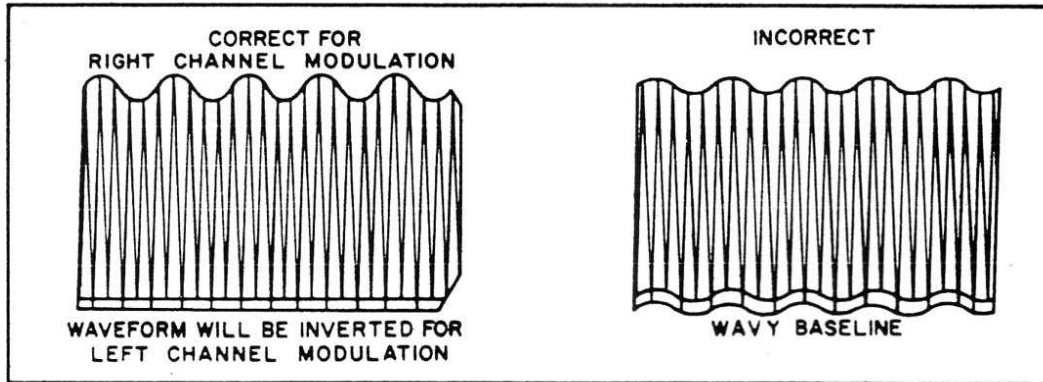

Figure 12. Waveform At Test Point 402
(6) Set R107 SEPARATION CONTROL (on preamplifier board) to mechanical center. Adjust core of Z403 (on AM/FM IF, MPX board) for maximum gain and as straight a base-line as possible on scope (see Figure 12). AC VTVM should read minimum.
(7) With MPX generator modulated on right channel only, connect AC VTVM to RIGHT RCDR OUT jack. Record reading on AC VTVM.
(8) Set MPX generator to modulate left channel only. Adjust R107 SEPARATION CONTROL (on preamplifier board) for minimum reading on AC VTVM; at least 35 dB below reading recorded in step (7). Record reading.
(9) Connect AC VTVM to LEFT RCDR OUT jack. Same reading  $\pm 2$  dB as recorded in step (7).
(10) Set MPX generator to modulate right channel only. Same reading  $\pm 3$  dB as recorded in step (8).
**NOTE:** If equal readings cannot be obtained in steps (8) and (10) Readjust Z402 slightly (on AM/FM IF, MPX board) and repeat steps (7) through (10).